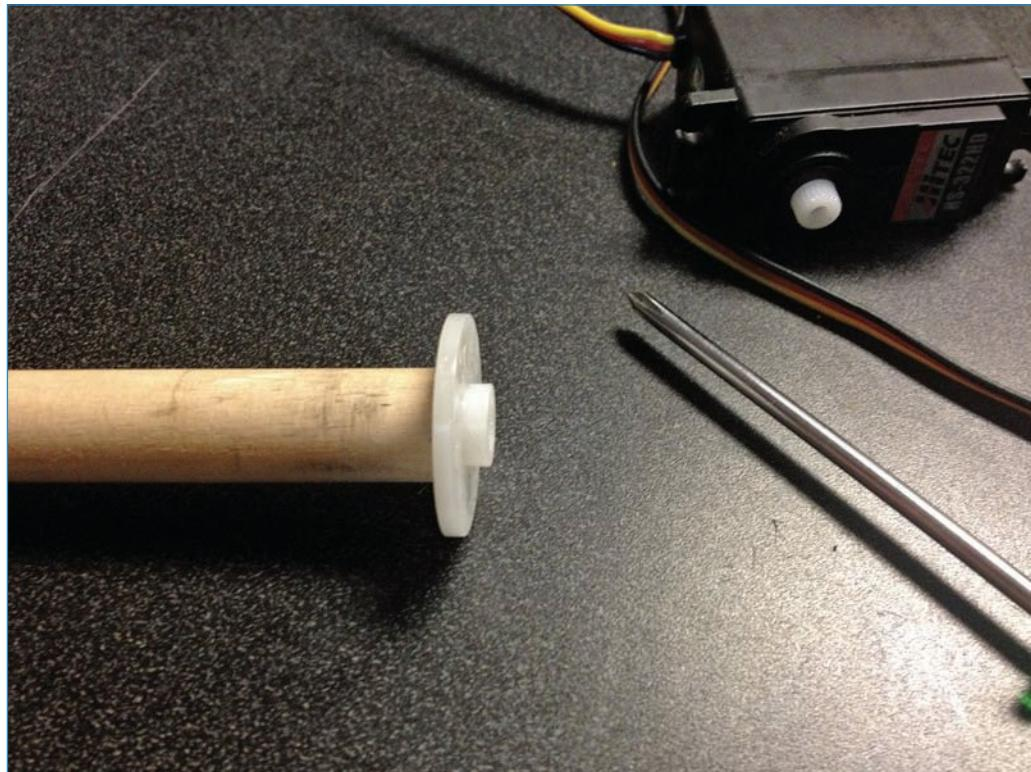

FIGURE 13.12 Secure the servo horn to the end of the dowel.
4. Use the 3/8" #4 screws to connect the servo horn to one end of the dowel, as shown in Figure 13.12.